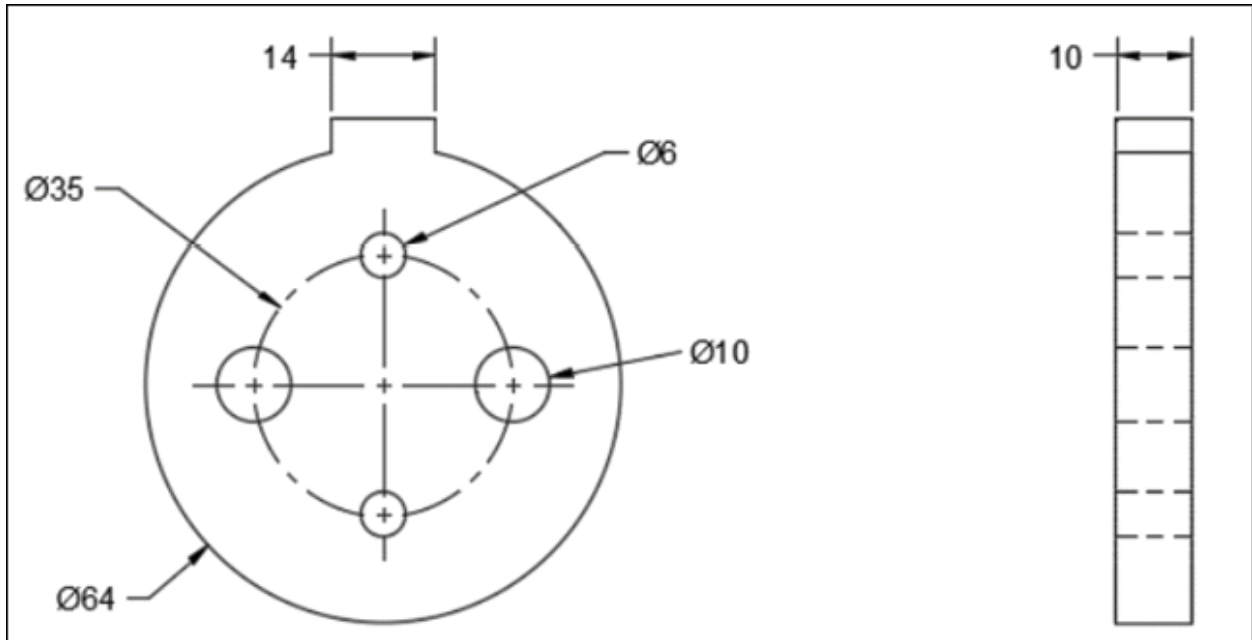

Figure-147. Applying dimensions
- Click on the **Dimension** tool from the **DIMENSIONS** panel in the **Toolbar** and apply dimensions as shown in Figure-147.